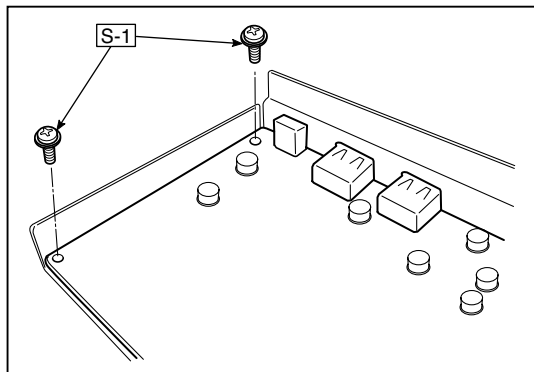

Fig.4
- 4.Remove the "S-1" screws shown in the figure 4 and then remove the Main Board Assy from the Main Board Shield.